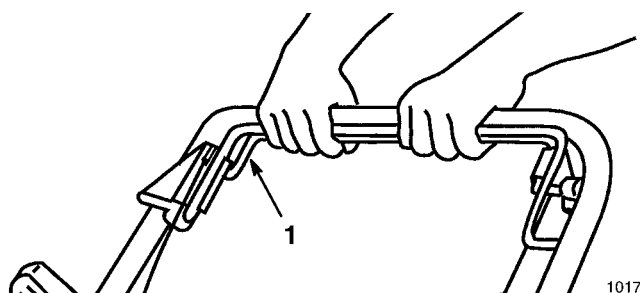

Figure 14
1. To operate self-propelled drive squeeze self-propelled bail against handle and hold (Fig. 14).